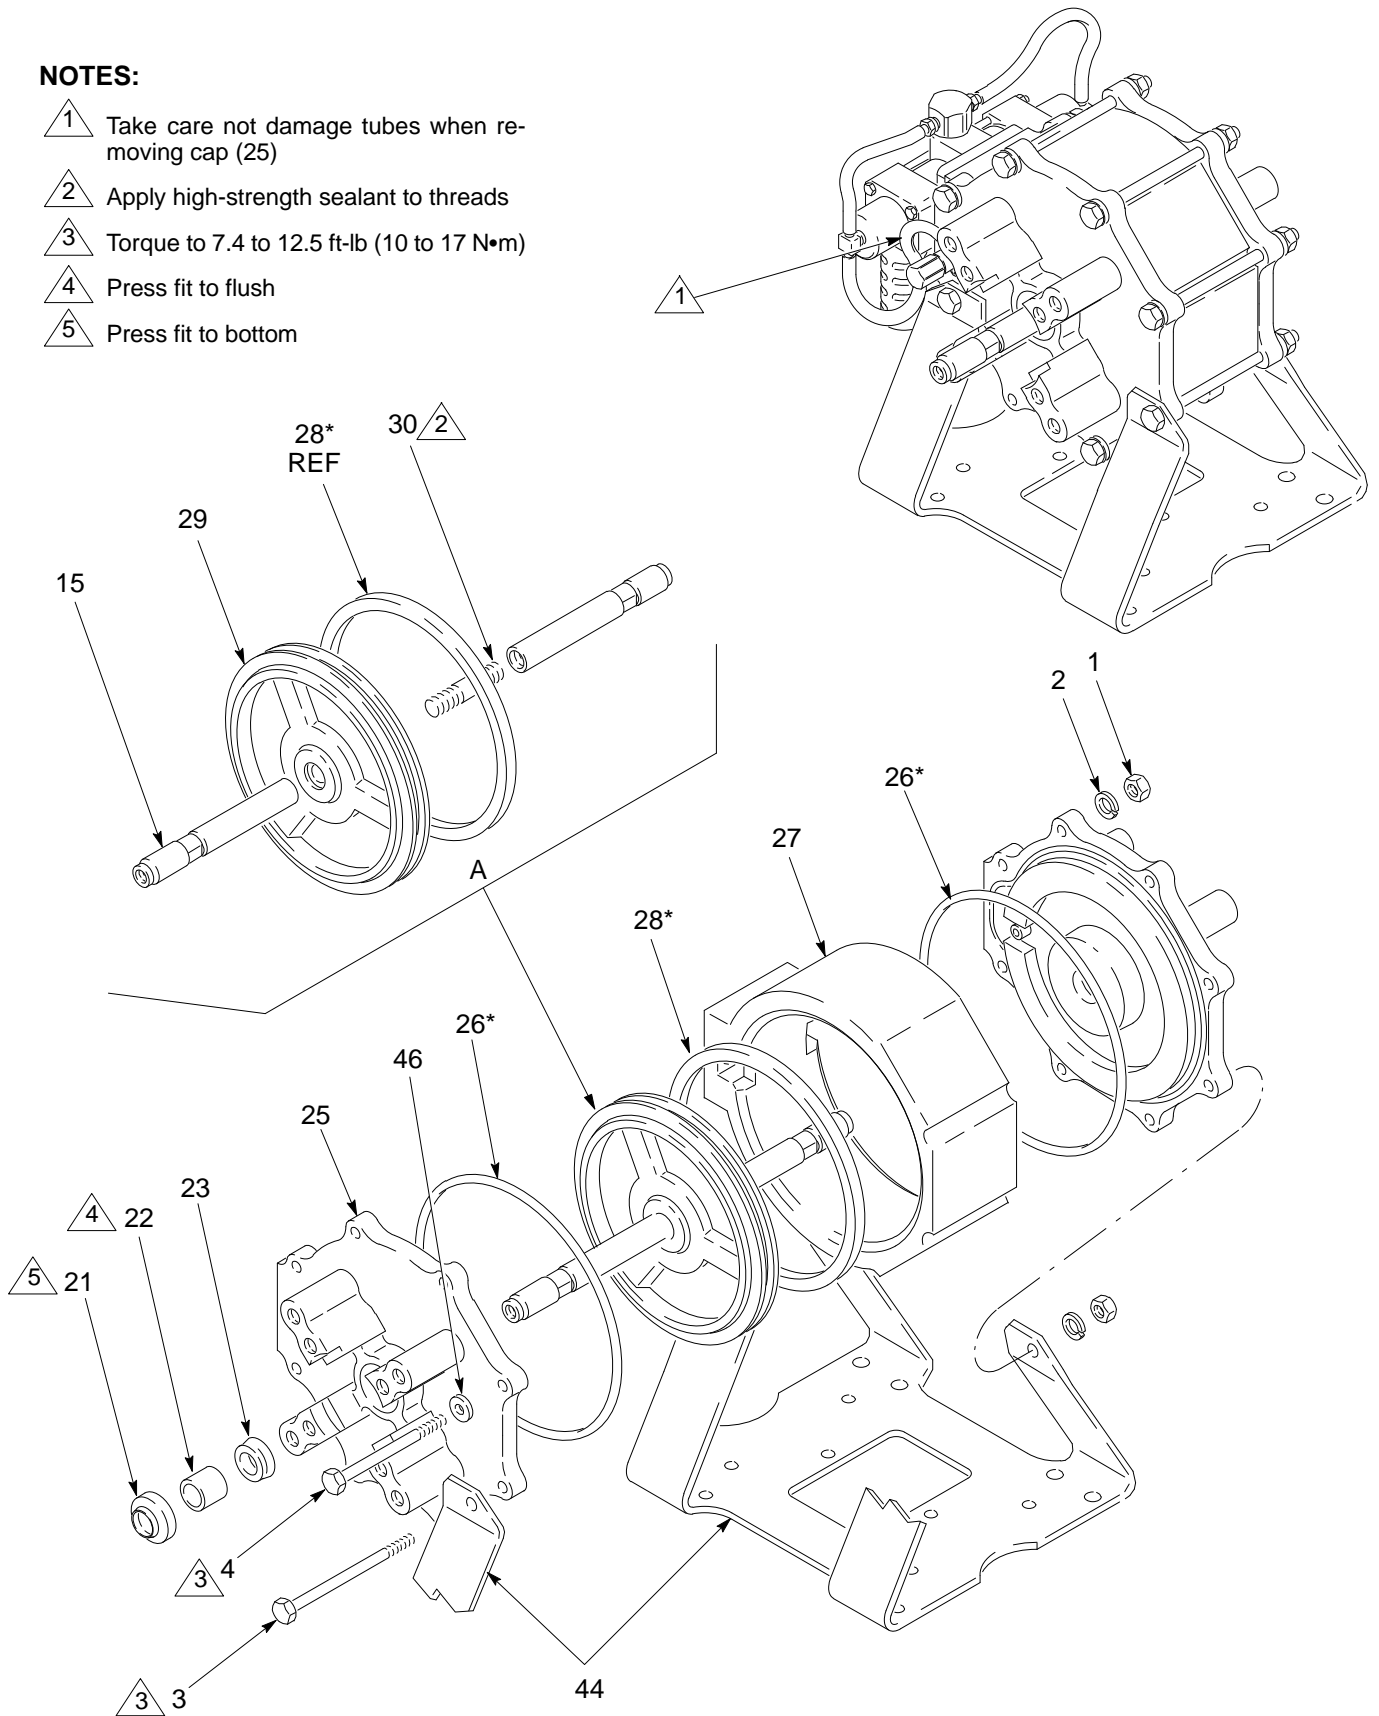

Fig. 7
3. Remove the screws (3 & 4), washers (46), nuts (1), and lockwashers (2) from the cylinder cap (25). See Fig. 7.
4. Remove the pump from the mounting bracket (44).
5. Remove the cylinder cap (25) from each end of the air motor. If the hoses aren't disconnected or the pilot valves removed, be careful not to pull on the hoses when removing the caps.
1. Apply lithium base grease to all packings, seals, and the inside of the air motor cylinder (27) before assembling.
2. If the piston shafts (15) were removed from the piston stud (30), apply high strength sealant (such as Loctite®) to the threads of the piston stud, and assemble as shown in Fig. 7.
3. Install the quad ring (28*) in the groove on the piston (29). Install the piston assembly (A) into the air motor cylinder (27).